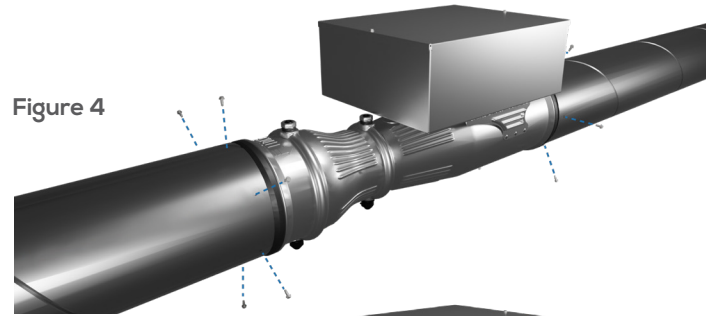

Figure 4
Attach the air valve to the ductwork using a minimum of six (6) sheet metal screws (see Figure 4). Ensure screws do not interfere with the FHV operation or airflow.